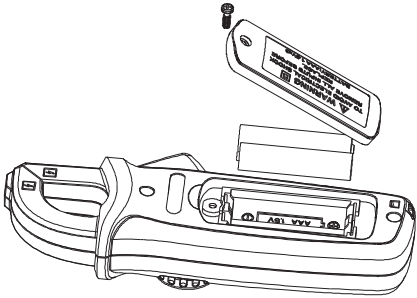

Figure 4
2.Replace battery (see Figure 4)